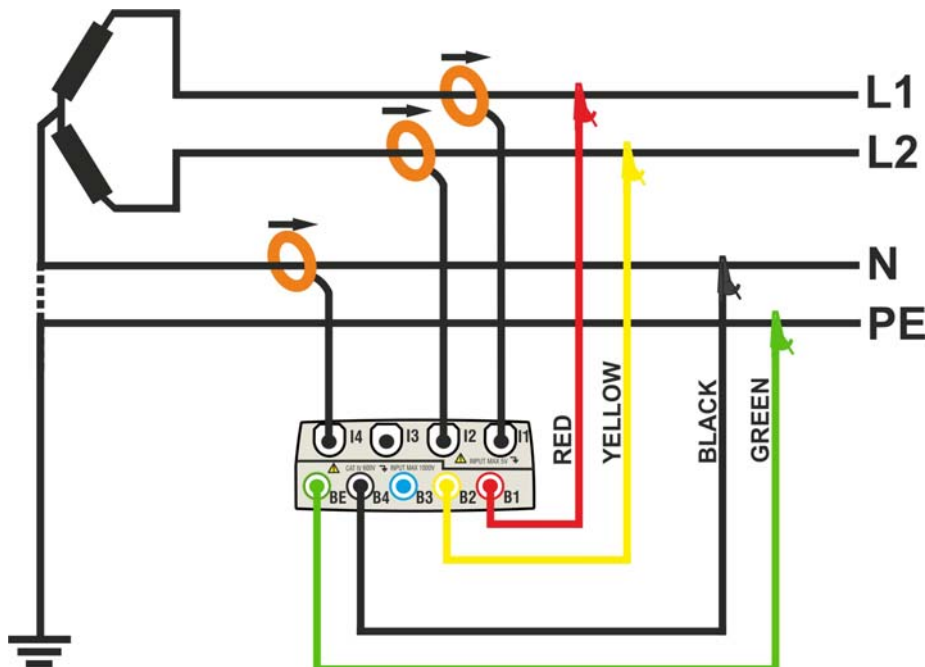

Fig. 127: Meter connection in a two phase 3-wire 3P 2E system – ENG\_UK type
2. Connect voltage test leads on Phases L1, L2, N and PE cables considering the colours as shown in Fig. 127
3. Connect the transducer current clamps on Phase L1, L2, N cables as shown in Fig. 127 respecting the clamp's arrow direction indicating the current standard sequence from generator to load. **On Real Time Values' section screens (selecting a 3 wire system preliminarily) always verify the positive value of Active Power and the power factor relative to load which should be normally inductive before starting a recording.** Reverse the clamp by 180 degrees on cables in case of negative readings.